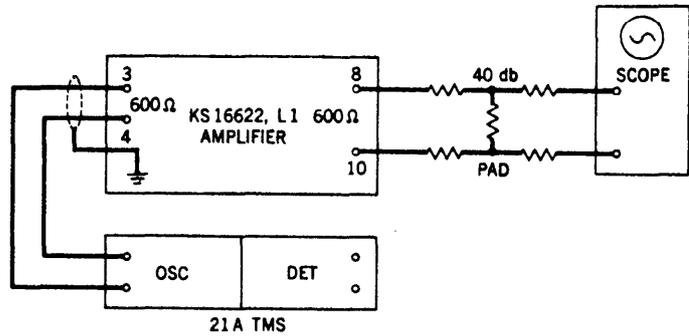

Fig. 4 – Test Setup for Observing Distortion
7.01 The distortion of the amplifier should be observed in accordance with the test setup shown in Fig. 4. Chart III outlines the step procedure for this test.
6	Without changing settings of OSC, connect circuit as shown in Fig. 4.